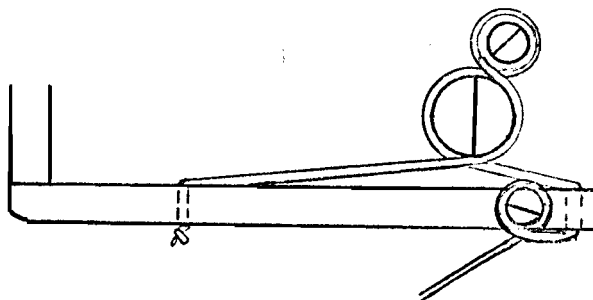

Figure 76
4. Wind the string around the post and loop under the stop arm screw (Figure 76).
8. Loop the string around the string screw (Figure 76).